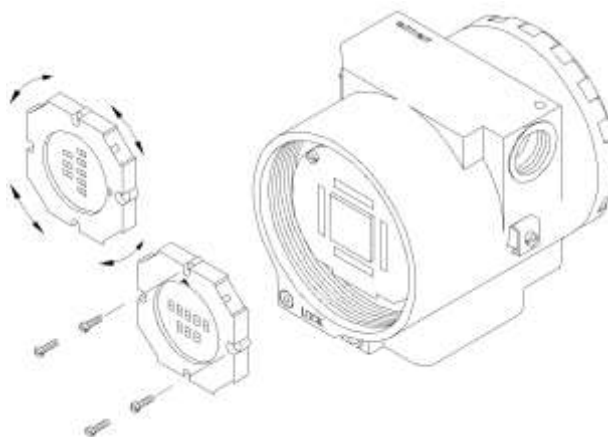

Figure 5.2 – Four Possible Positions of the Display
Plug sensor connector and power supply connector to main board. If there is a display, attach it to the main board by means of 4 screws (3). The display can be installed in any of the 4 possible positions (See Figure 5.2).